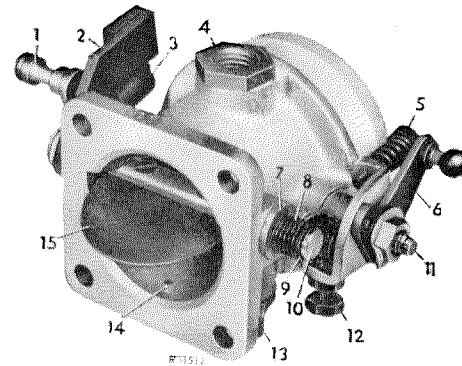

Figure 07-23/1
Check the seat of the air nozzle and of the additional venturi pipe, observing the correct screw-in depth of the air nozzle (Figure 07-23/2). Dimension b should be 5.7 ± 0.2 mm for the OM 636 and 4.5 ± 0.2 mm for the OM 621. The bore of the air nozzle c is 5 mm for all types. The first version of the the air nozzle for the OM 636 had a bore of 3.5 mm, which is no longer installed today. A variation of the measure b or bore diameter of the nozzle influences the governing which results in incorrect adjusting values.
Check the mounting flange of the throttle duct. If necessary, level contact surface on a surface plate. The full-load stop screw (5) must at first be so adjusted that the throttle butterfly is tilted approx. 5 deg in full throttle position; it should not be completely opened. This tilting allows a subsequent adjusting of the max. full load speed and the max. no-load speed (see Figure 07-23/1).